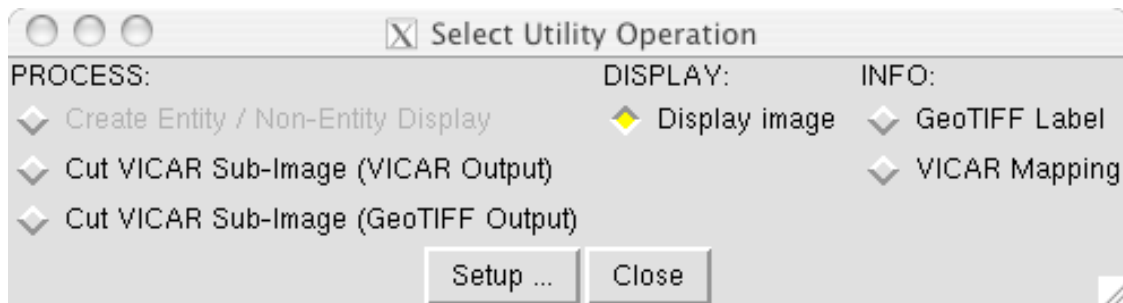

Figure 5-8: Optional Utilities selection box. Pick a Utility and click the “Setup...” button.
**“Process Utilities”** provide special image processing functions, including trimming and matching images in VICAR and GeoTIFF (.tif) formats (Figure 5-8), usually for export to another image processing software package.
“**Display Utilities**” are for displaying and comparing image datasets (Figure 5-8). The VICAR *xvd display* program is used for all image displays.
“**Information Utilities**” are for displaying image georeference and label/metadata information (Figure 5-8).